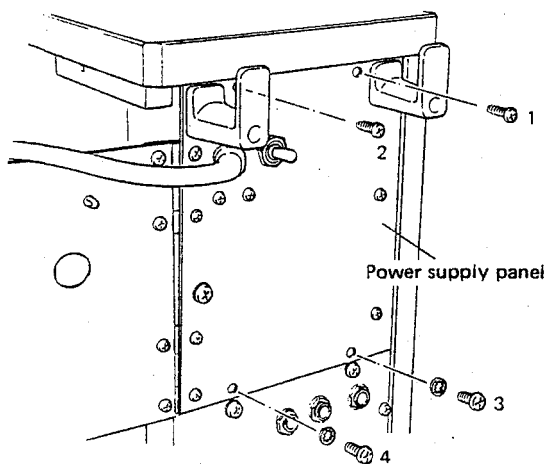

Fig. 7
- b. Remove four screws (① through ④ in Fig. 7) from the power supply panel and remove the power supply unit.